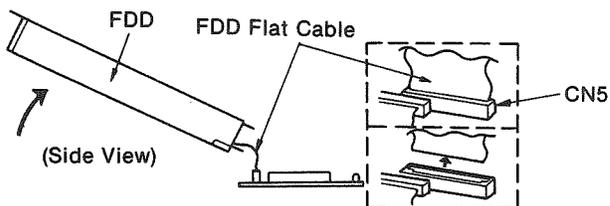

Figure 18
- (2) Gradually raise the front end of the FDD and then disconnect the FDD flat cable from connector (CN5) as shown in Figure 18.
- (3) Gradually disconnect the FDD flat cable from the connector mounted on the FDD.